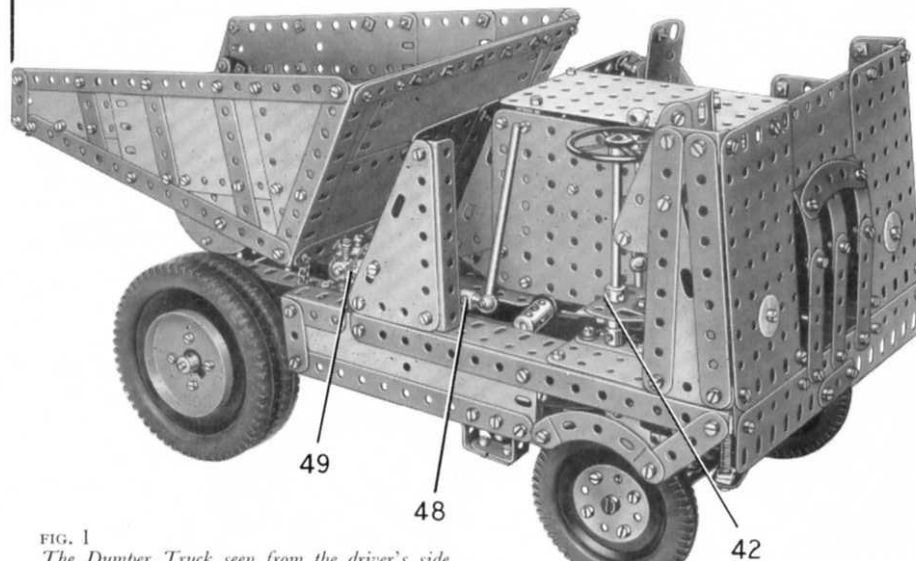

FIG. 1
The driving seat is made by attaching a $2\frac{1}{2}$ " $\times 1\frac{1}{2}$ " Flexible Plate and two $2\frac{1}{2}$ " $\times 1\frac{1}{2}$ " Triangular Flexible Plates to a Flat Trunnion by Angle Brackets. A $1\frac{1}{2}$ " Strip is connected to the Flat Trunnions by an Obtuse Angle Bracket, and to a second Flat Trunnion (42) (Fig. 1) by another Obtuse Angle Bracket. Flat Trunnion (42) is passed over the steering column and is held in place by the 'spider' from a Swivel Bearing.
The Tipping Hopper (Figs. 1, 2 and 7)
The hopper locking lever is a $3\frac{1}{2}$ " Rod held in a Handrail Coupling (48) (Fig. 1). The Handrail Coupling is fixed on a 3" Rod